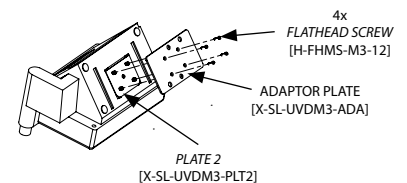

Figure 6
4. Align 4x **HOLE**s of the **ADAPTOR PLATE** or **PLATE 2** and tighten with 4x **FLATHEAD SCREWS** as shown in **Figure 6**.